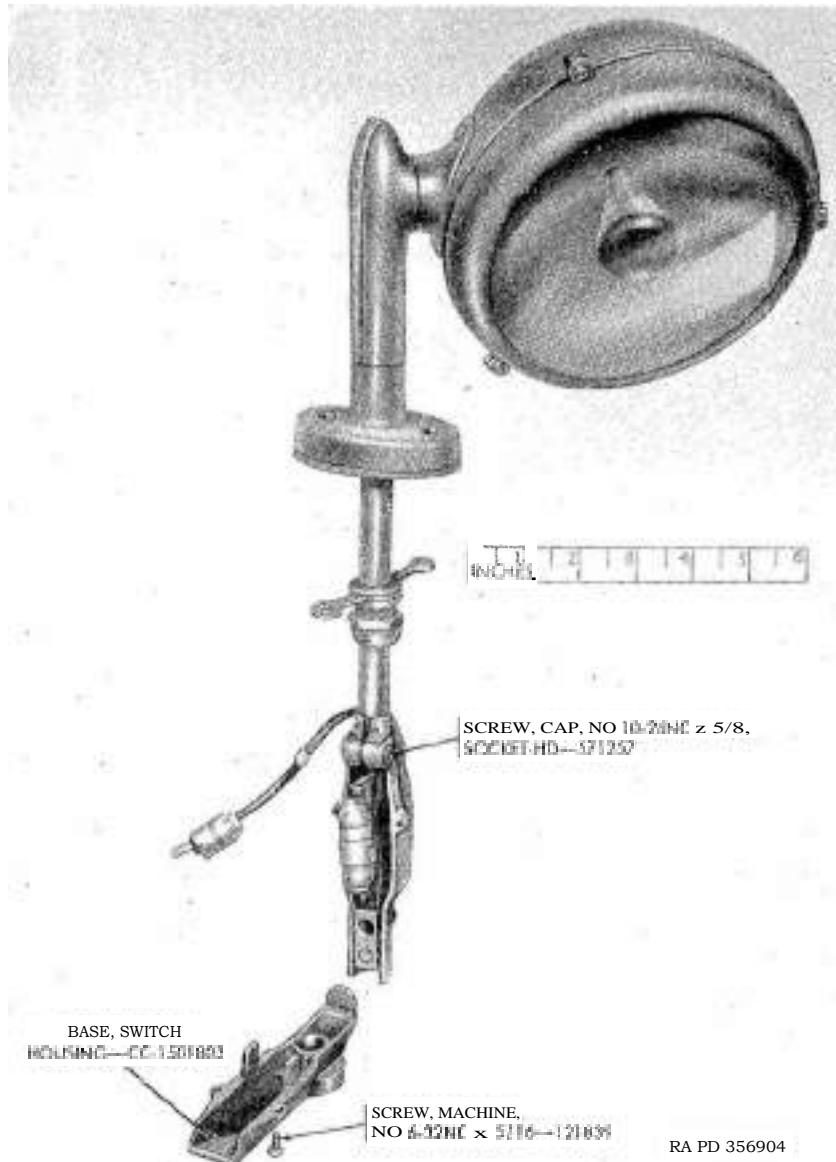

Figure 232. Switch housing base-removed.
- (1) Remove two machine screws (fig. 232); then remove switch housing base from switch housing assembly.
- (2) Remove socket-head cap screw (fig. 232) from switch housing assembly with a $5/32$ -inch set screw wrench.
- (1) Inspect switch housing base (fig. 232) for cracks or other visual damage. Replace housing base if it is not in good condition.